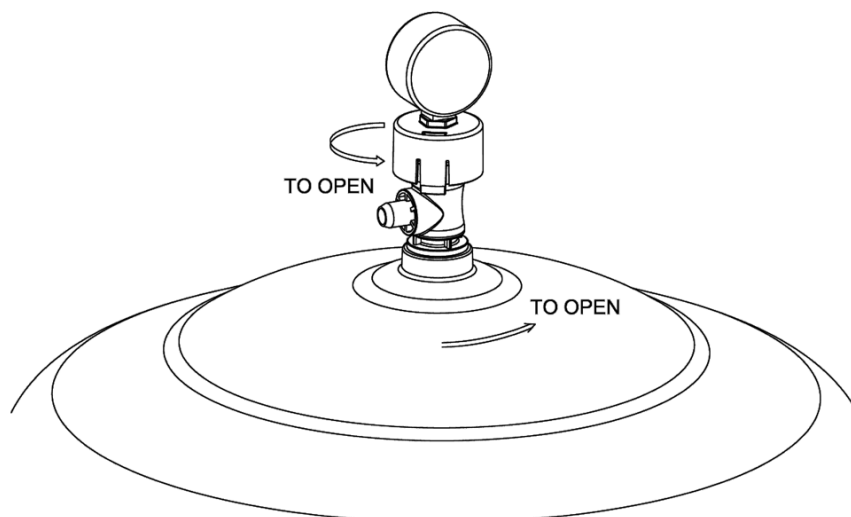

Figure 11
3. The Manual Air Relief Valve must be placed in the OPEN position. (See Fig 11)